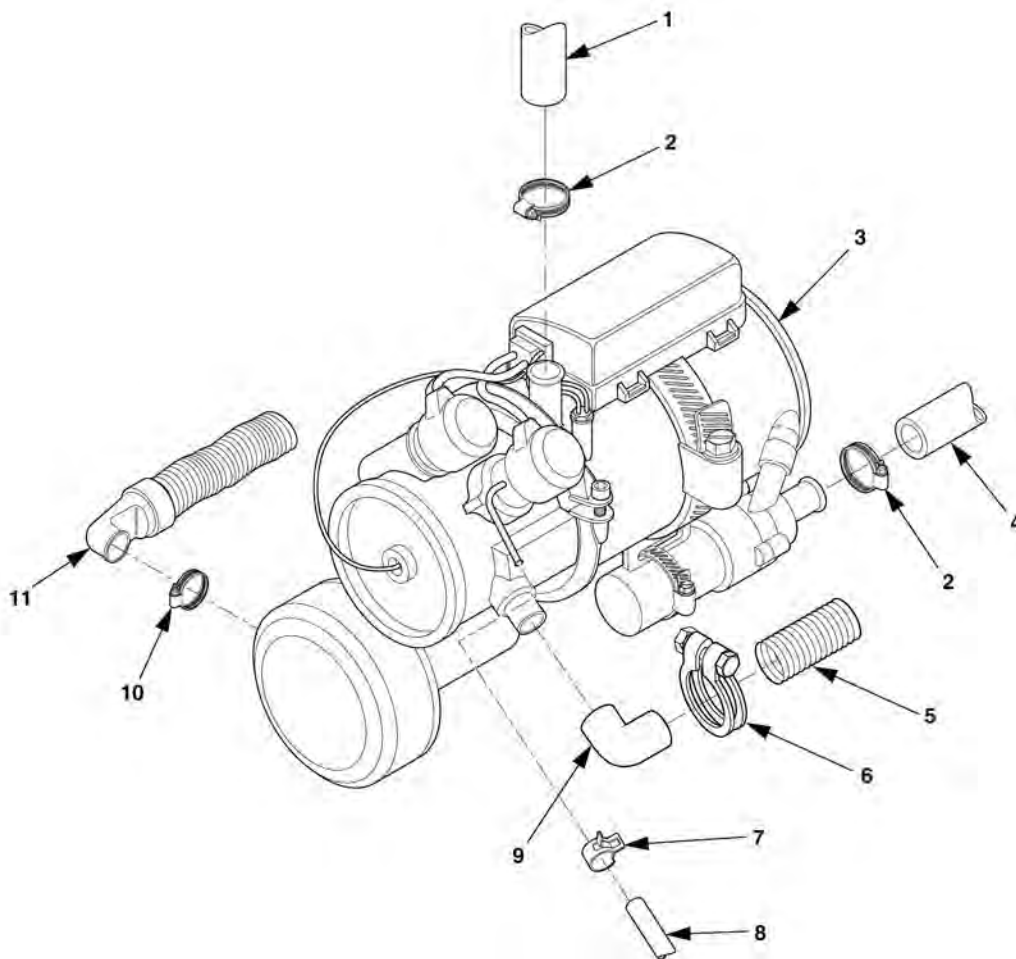
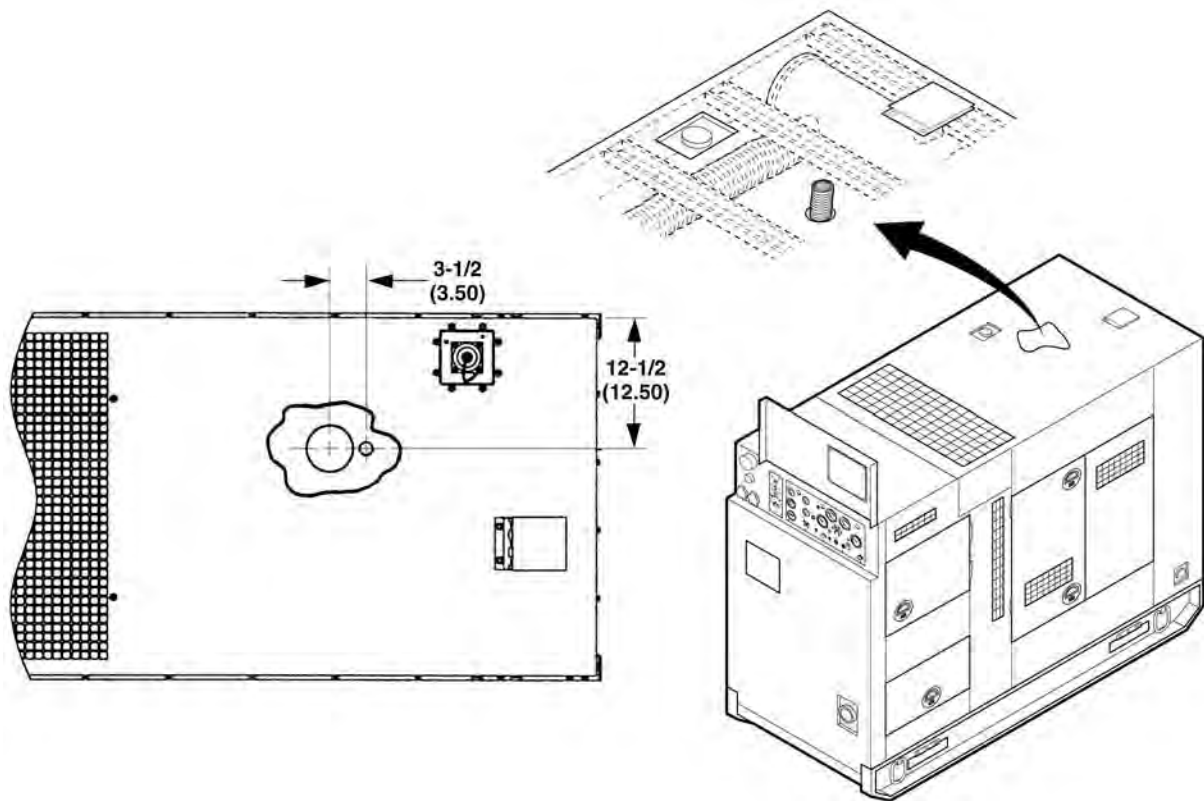

Figure 5-1. Heater Hose Assembly
Figure 5-8. Exhaust Hose Assembly
3. Install air inlet hose (11), Figure 5-1, to heater (3), using clamp (10). Install coolant hose (4), to heater coolant intake using clamp (2). Install coolant hose (1), to heater coolant using clamp (2). Install fuel butt splice (8) to heater fuel intake using clamp (7).
9. Apply two good beads of RTV around exhaust port of heater (3), Figure 5-1, and point the exhaust elbow (9) in the desired direction to route the exhaust hose (5) to come out the top of the inner ceiling of the generator as shown in Figure 5-8. Secure exhaust hose with clamp (6).
25. Provide a 1 7/16" diameter hole in duct floor as shown in Figure 5-8.